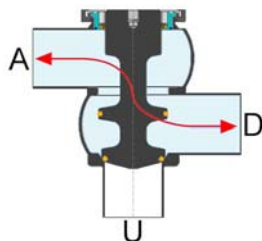

Fig. 1
- Function of valve: To guide liquid media optionally from one pipe to two pipelines separated from each other and vice versa.(see Fig.1 and 2)